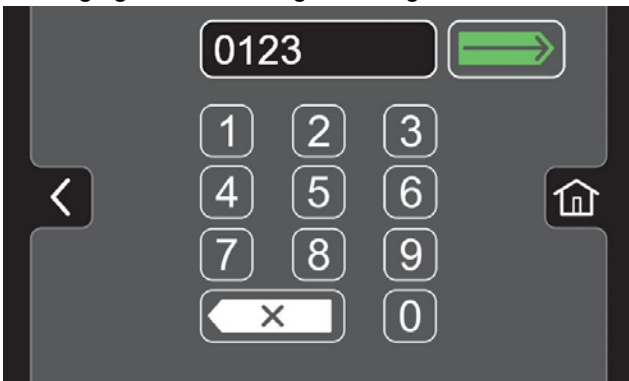

FIG. 173
5. Assign a login code for the new user profile then press the green enter button (Figure 173). The new login code can be any combination of numbers ranging from 3 to 8 digits in length.